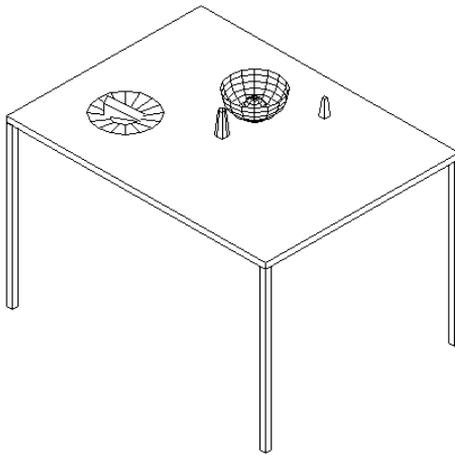

Figure 23-22: The table with a plate, wedge of cheese, bowl, orange, and nonmatching salt and pepper shakers.
16. Save your drawing. It should look like Figure 23-22. If you look carefully, you'll see that the edge of the cheese wedge goes through the plate slightly.